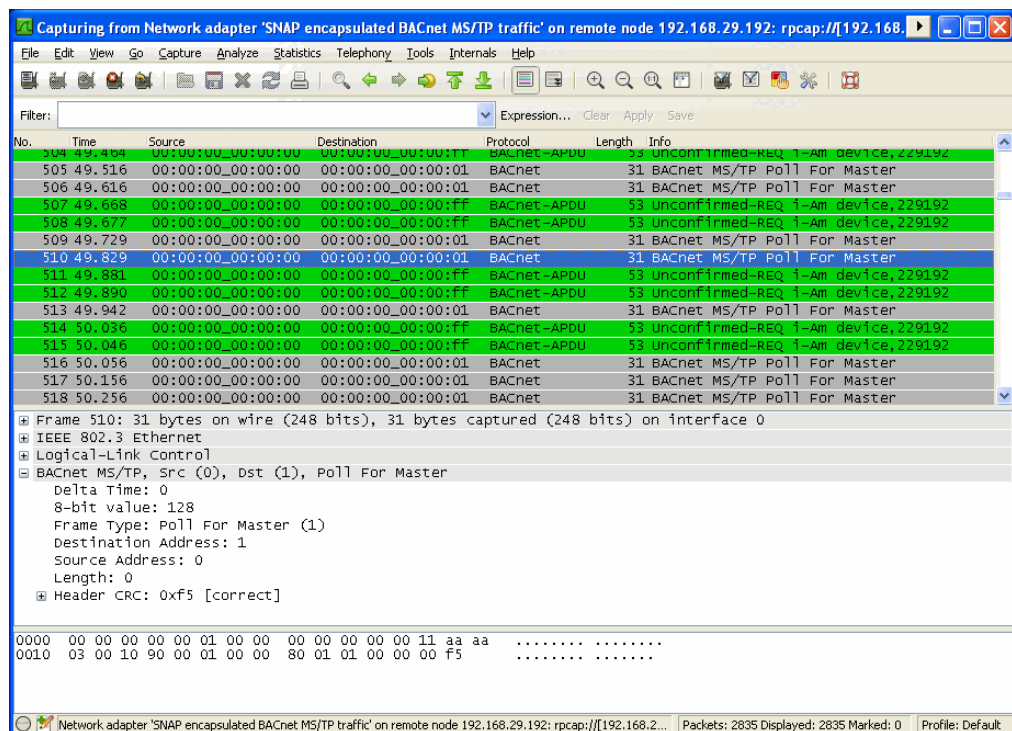

Figure 140: Example MS/TP remote capture in progress.
3. Wireshark will attempt to establish a connection to the device and, if successful, start displaying packets. An example capture is shown in Figure 140.